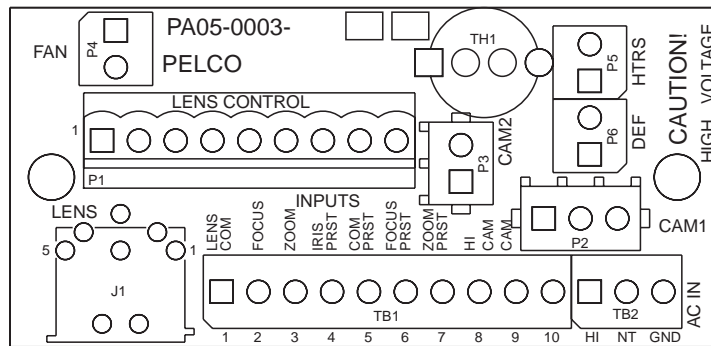

Figure 2. Circuit Board Component Locations
3. Bring wires for AC high, AC neutral, and ground into the enclosure. Refer to Figure 1, HS4514 Series Input Wiring Diagram, and Figure 2, Circuit Board Component Locations, and connect the wiring as follows:
If you need to troubleshoot the circuit board or wiring, refer to Figure 1, HS4514 Series Input Wiring Diagram, and Figure 2, Circuit Board Component Locations.